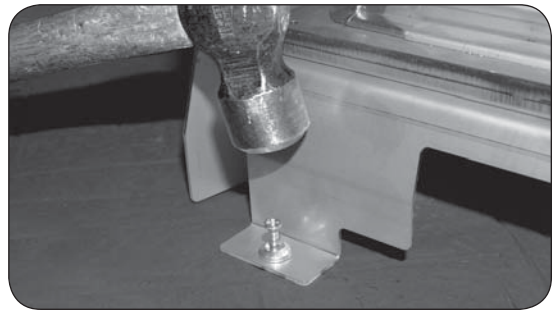

Fig. 10-1 Installing hammer screws
2. Reposition the burner over the pilot holes and insert the provided hammer screws. Carefully hammer the screws in as shown in Fig. 10-1.